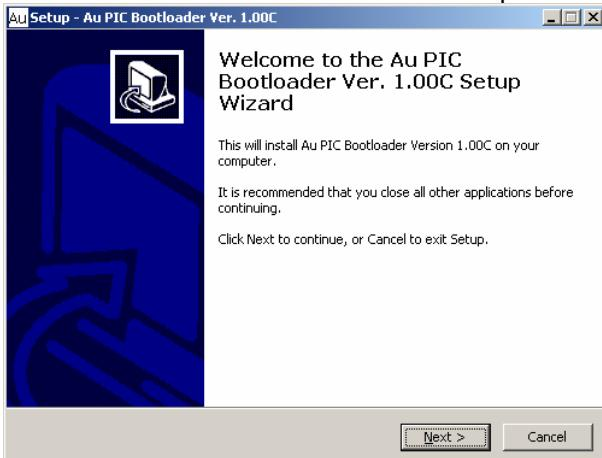

Figure C-2
- Welcome to the Au PIC Boot-loader Setup Wizard" window will show up, click "Next" (Figure C- 2)